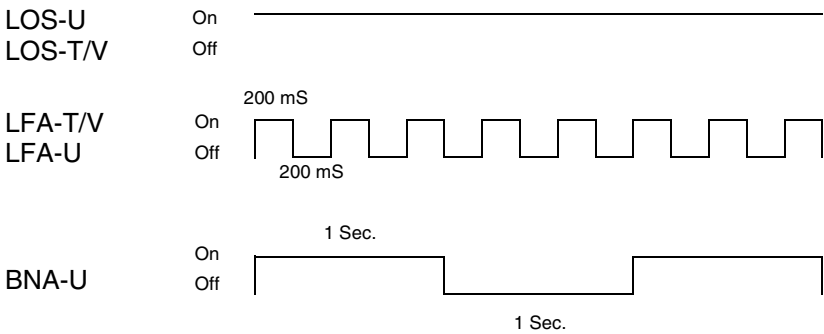

Fig. 2.61 Visual signalling LOS/LFA/BNA
1) Visual signalling according to Fig. 2.61